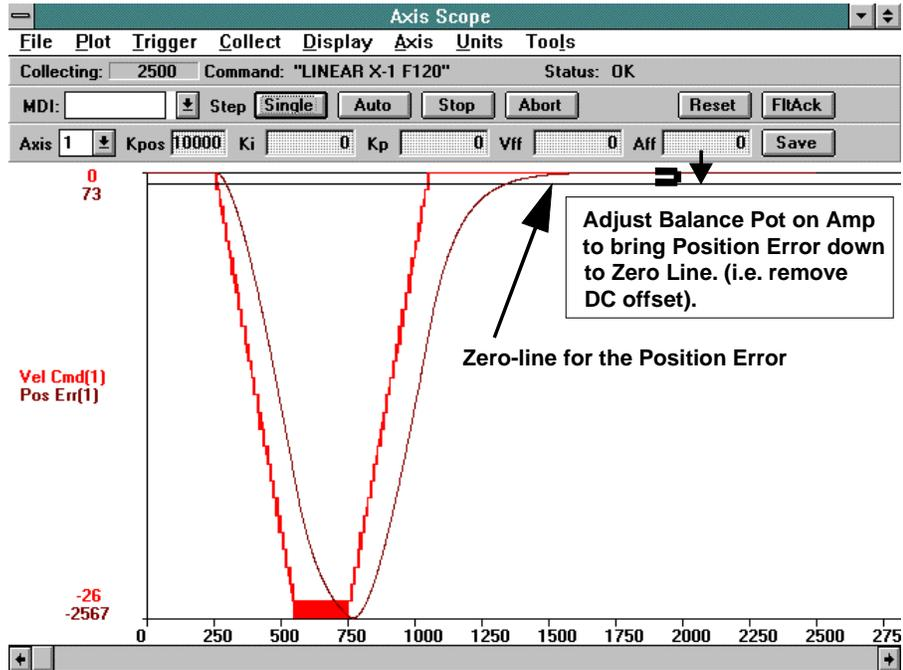

Figure 6-25. Plot Showing the Removal of DC Offsets in the Position Error
8. This step requires fine tuning the amplifier settings. First, adjust the Balance pot on the amplifier in order to remove any DC offset in the position error. Press the Auto button to repetitively move the stage in the forward motion and reverse motion. While the stage is moving, adjust the Balance pot and remove any DC offset in the position error. Press the STOP button when the task is done. This is shown in Figure 6-25.